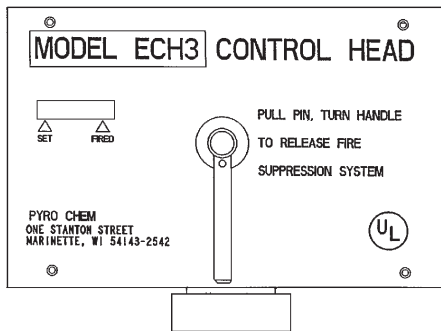

**Figure 2-5. Mechanical Control Head.**
The Model MCH3 mechanical control head is a fully mechanical control head which can be connected to the PCI-15/17/25s/35/50s/70 cylinder valve. This control head will support a fusible link detection system, a remote mechanical pull station (Model RPS-M), and a mechanical or electric gas shut-off valve. A micro switch (Model MS-SPDT, MS-DPDT, MS-3PDT, or MS-4PDT) can be ordered separately and field installed. It is equipped with a local manual control handle that allows for mechanical system actuation. Operation of the local manual control requires removing the pull pin and rotating the handle clockwise. The Model MCH3 control head can actuate a maximum of five (5) cylinders. See **Figure 2-5**.